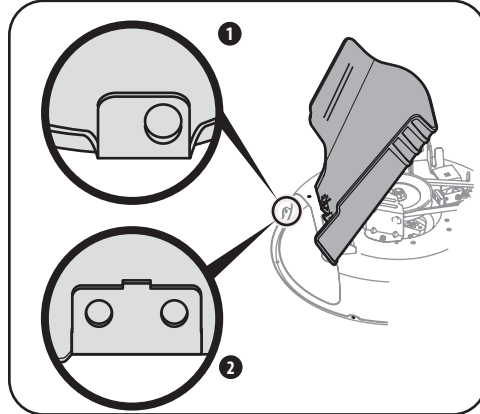

Figure 4-10
1. Determine whether your deck is a 42" or 46" model. As shown in Figure 4-10, a 46" deck will have a mounting tab with 1 hole (1), while a 42" deck will have a mounting tab with 2 holes (2).